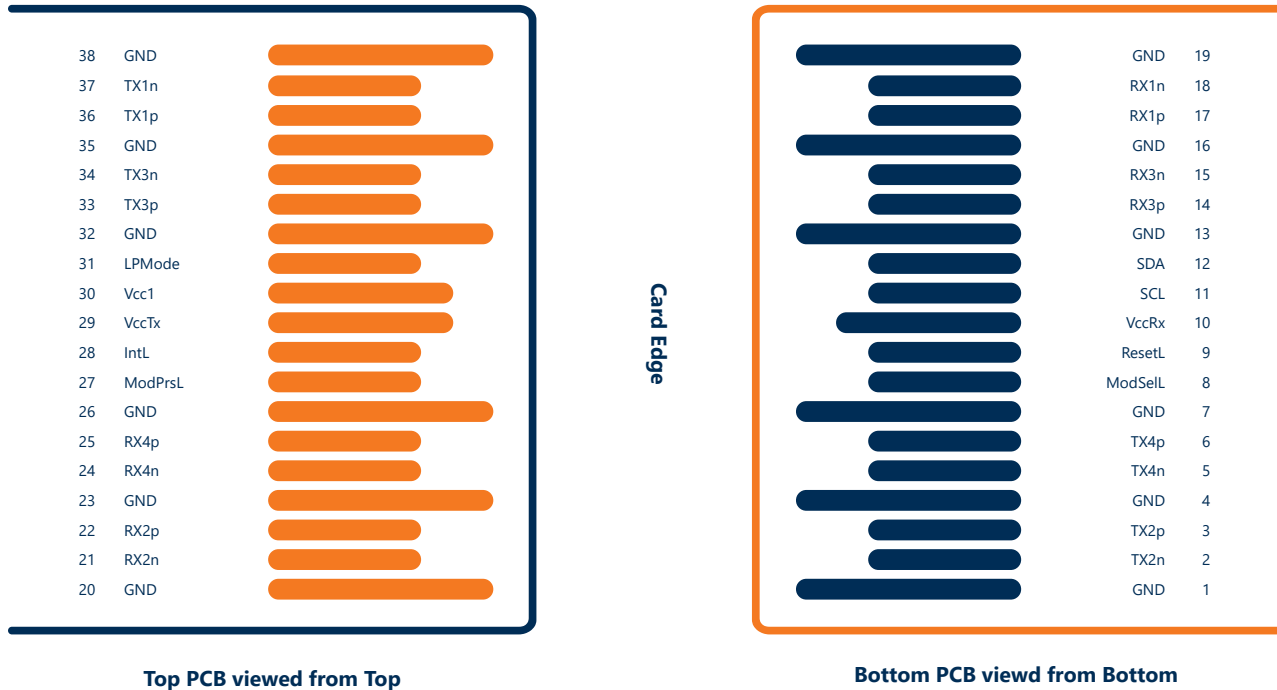

Figure 1: QSFP28 module pad assignment and layout
3. Plug Sequence specifies the mating sequence of the host connector and module. The sequence is 1, 2, and 3 see Figure 1 for pad locations.